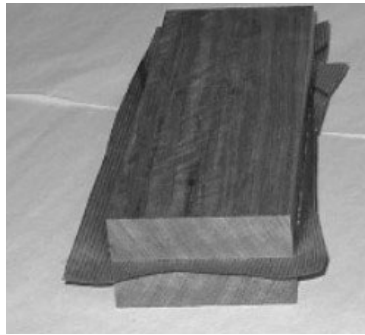

Figure 1. Kraft paper glued between two blocks.
1. Determine the cross section dimensions of the turning block to be prepared. As an example assume the final block will be 1" x 1" x 7". Prepare 2 pieces of stock that in this case are, $\frac{1}{2}$ " x 3" x 7". Cut a piece of kraft paper (e.g. a brown paper grocery bag) $3\frac{1}{2}$ " x $7\frac{1}{2}$ " and glue it between the two stock pieces using ordinary white glue. Fig. 1